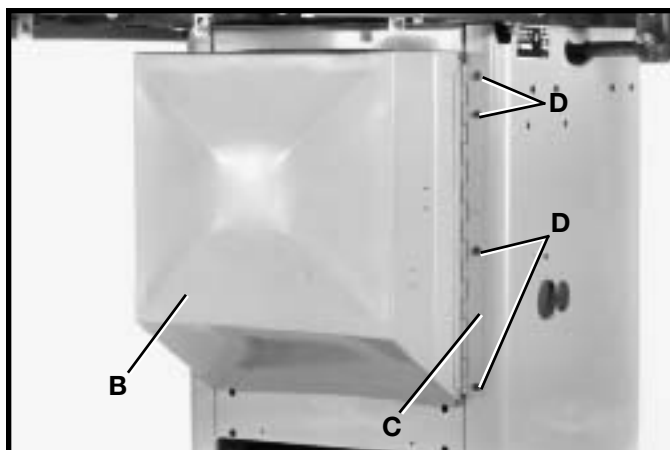

Fig. 41
2. Assemble hinged side (C) Fig. 41, of motor cover (B) to right side of saw cabinet using four 1/2 long self-tapping screws (D), as shown.